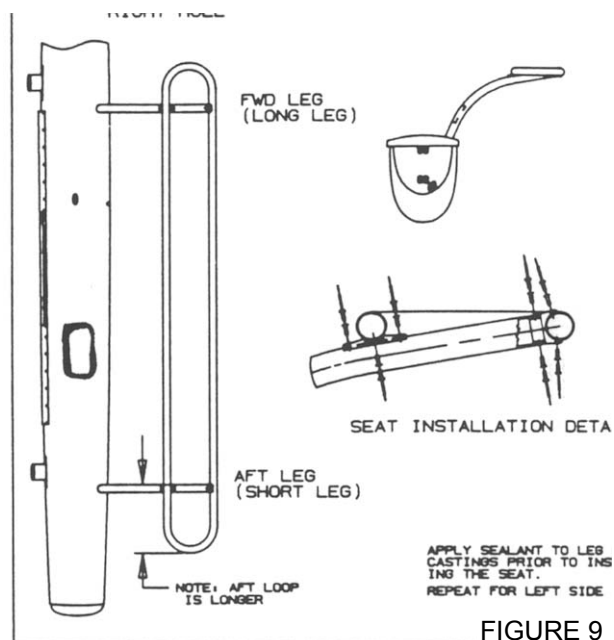

FIGURE 9
8.3 Put the right wing legs into the sockets and place the right seat onto the legs. All parts are pre-drilled so the holes should line up properly. Rivet the seat onto the legs using rivets and rivet caps. (FIGURE 9)